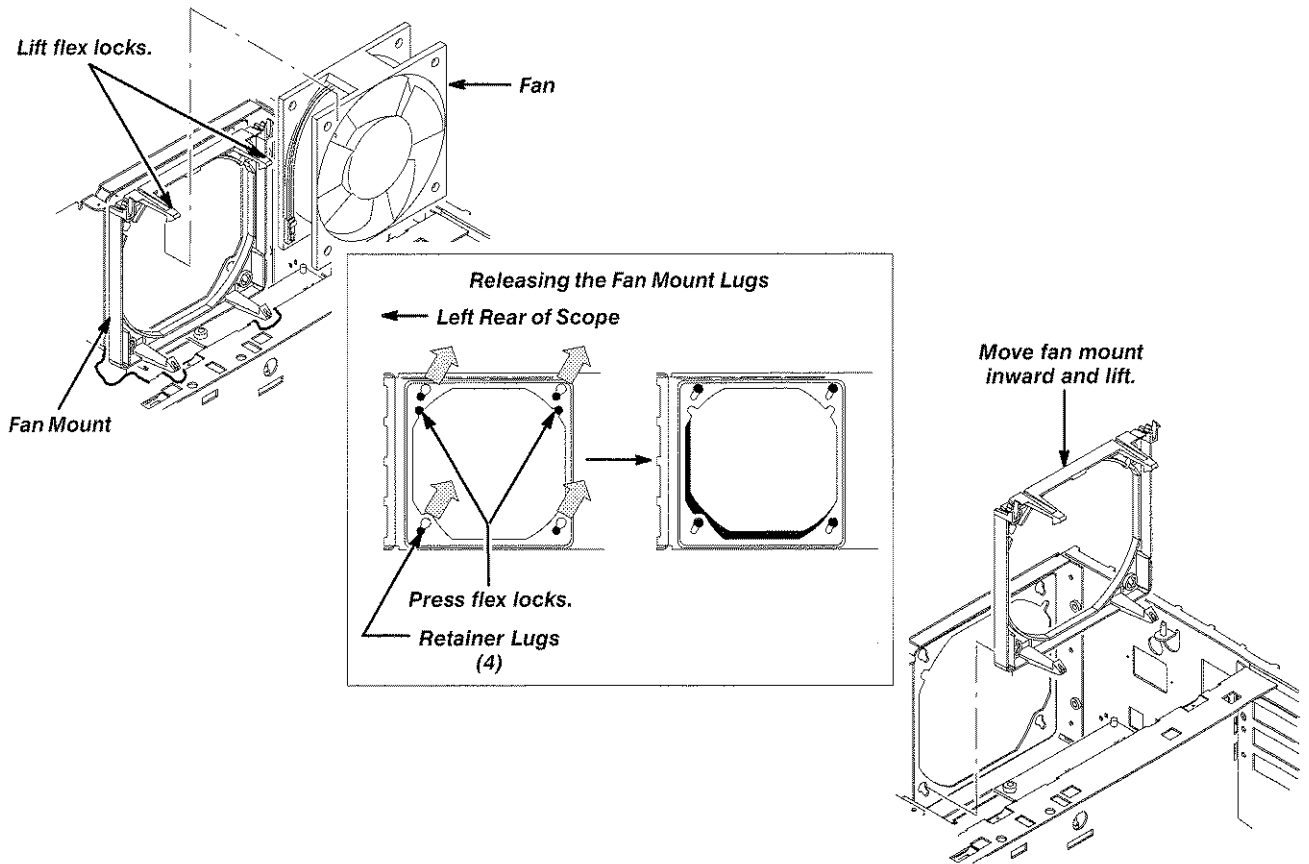

Figure 8-19: Fan and Fan Mount Removal
4. Depress the two flex locks to release them (see Figure 8-19).